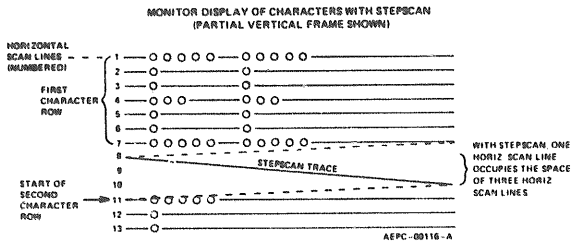

Figure 17. Displaying Characters on a Monitor with StepScan
#### STEPSCAN FUNCTION (Reference Figure 17)
StepScan is useful when it is desired to display more rows of data characters than the existing "alphanumeric video" signal format will permit. A typical display consists of 240 horizontal scan lines which form character rows of data. Between each character row is a desired amount of blank spacing that is made up of horizontal scan lines without video information. By accelerating the vertical deflection between character rows, one (1) horizontal scan line could provide the spacing between rows that would normally be occupied by three (3) horizontal scan lines (see Figure 17). This would reduce the number of blank horizontal scan lines between character rows from three (3) down to one (1). However, the physical spacing between the character rows would not change. Since two (2) horizontal lines are saved between each row, a 24 row format will accumulate 48 unused scan lines. These 48 extra scan lines will reside at the bottom of the display since the CRT still scans a total of 240 horizontal lines. Therefore, the 48 additional lines at the bottom can also be used to display data. This means an additional six (6) rows of characters can be displayed. (For example, 7 lines for char. height plus 1 line for spacing = 8 lines per char. block. 48 unused lines divided by 8 char. block lines = 6 additional rows.)